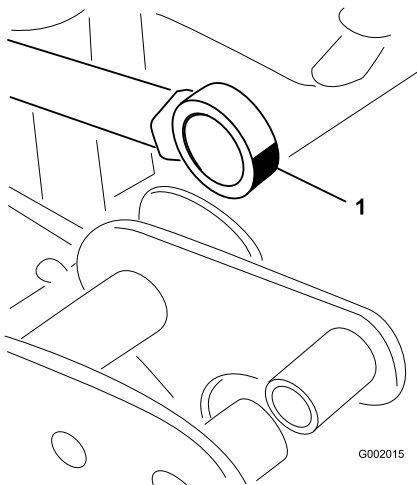

Figure 46
- Manipulate the actuator rod bearing end and apply grease into the bearing (Figure 46). Wipe off excess grease.